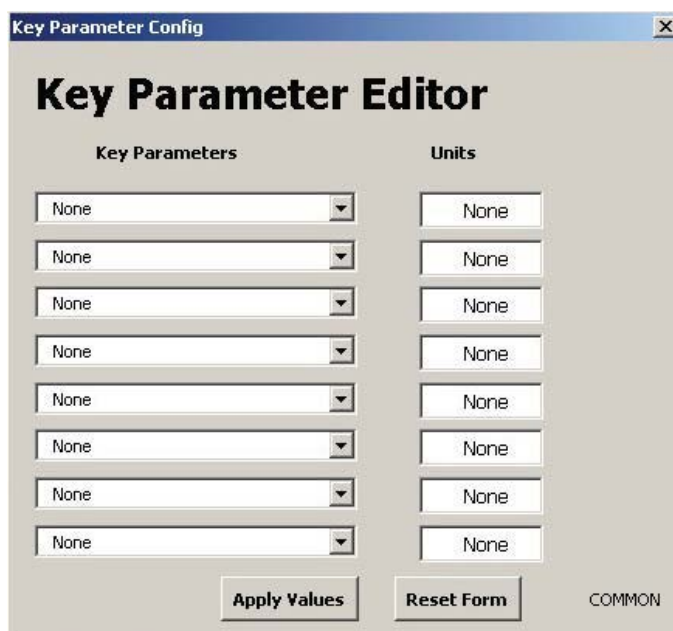

Figure 4.76. Key parameter editor screen.
2. If fewer than eight parameters are required for display, leave the default setting at “None” (Figure 4.76).
3. Click **Apply Values** to save the setting (Figure 4.76).